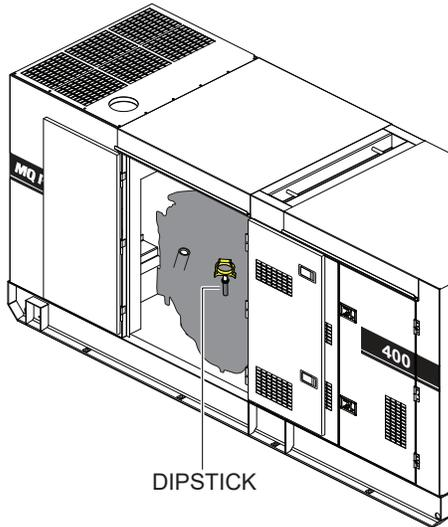

Figure 25. Engine Oil Dipstick
2. Remove the **dipstick** from its holder (Figure 25) and wipe it clean.